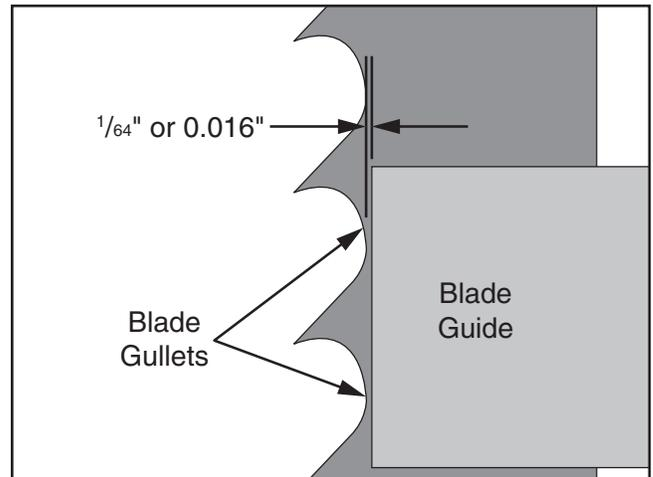

Figure 69. Blade guide positioned $\frac{1}{64}$ " behind blade gullets.
4. Rotate wheels by hand and observe blade position. Blade should track in center of wheels and blade gullets should track about $\frac{1}{64}$ " in front of blade guides (see **Figure 69**).